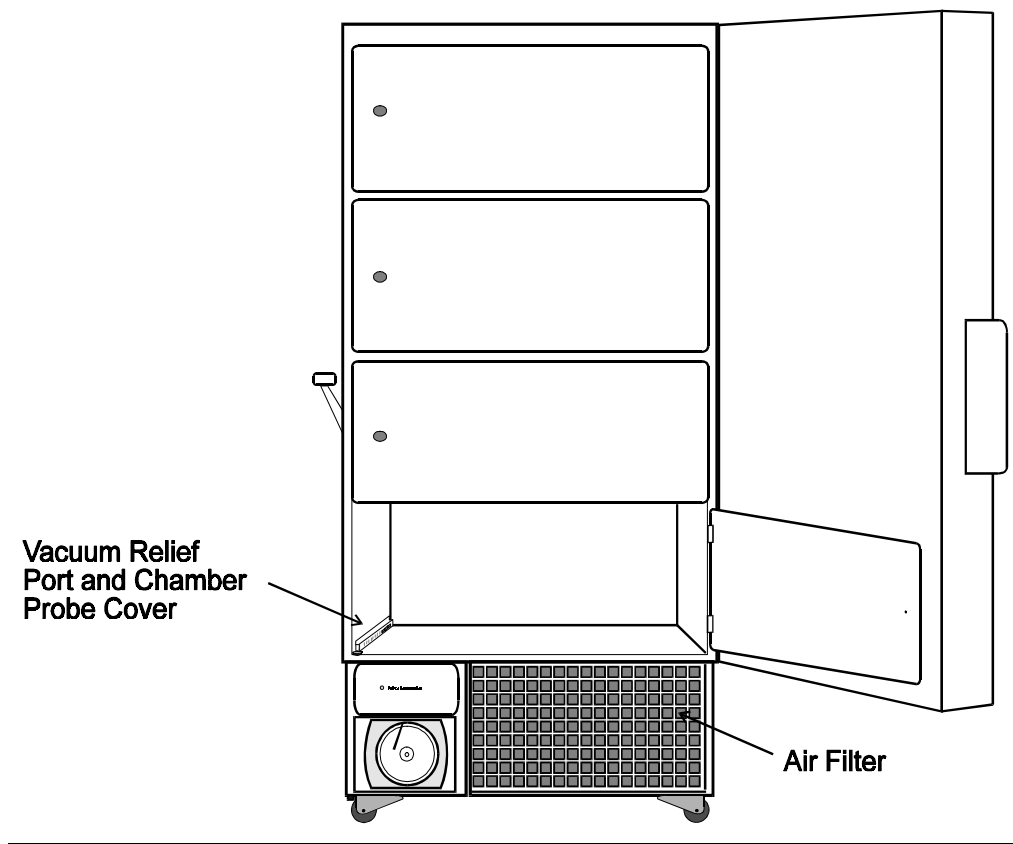

Figure 6-1
6.2 CLEANING THE AIR FILTER (Refer to Figure 6-1)
6.5 CLEANING THE VACUUM RELIEF PORT (Refer to Figure 6-1)